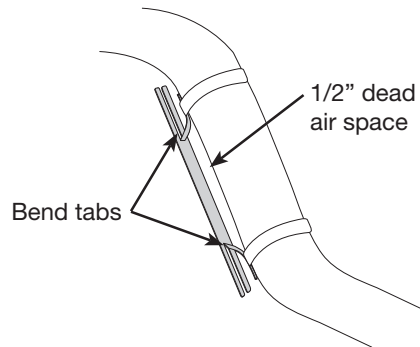

fig. 13
1. Bend tabs to provide a dead air space between exhaust pipe and heat shield. (Fig. 13) Attach the heat shield to the exhaust pipe using the clamps. Bend the heat shield for maximum clearance to the air spring.